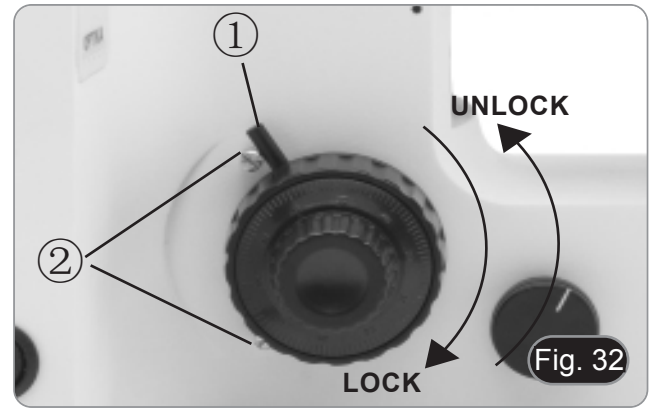

Fig. 31
1. To modify the tension according to personal's needs, rotate the ring ②. (Fig. 31)